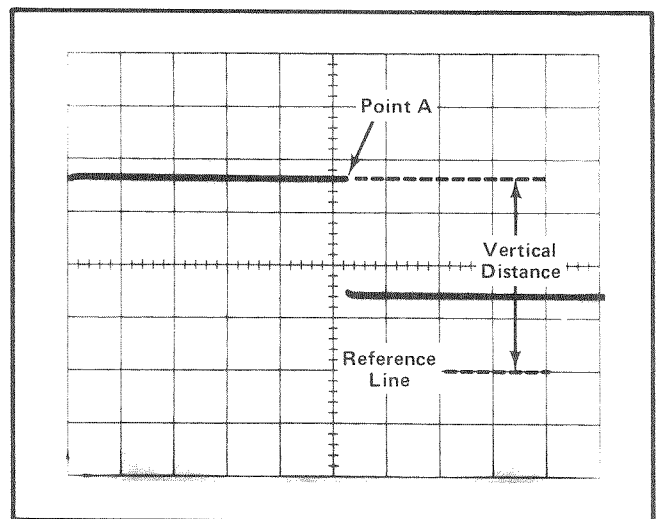

Fig. 2-3. Measuring instantaneous voltage with respect to some reference.
7. Measure the distance in divisions between the reference line and the point on the waveform at which the DC level is to be measured. For example, in Fig. 2-3 the measurement is between the reference line and point A.
EXAMPLE: Assume the vertical distance measured is 3.6 divisions (see Fig. 2-3) and the waveform is above the reference line using a 10X probe with a VOLTS/DIV setting of 0.5 V.